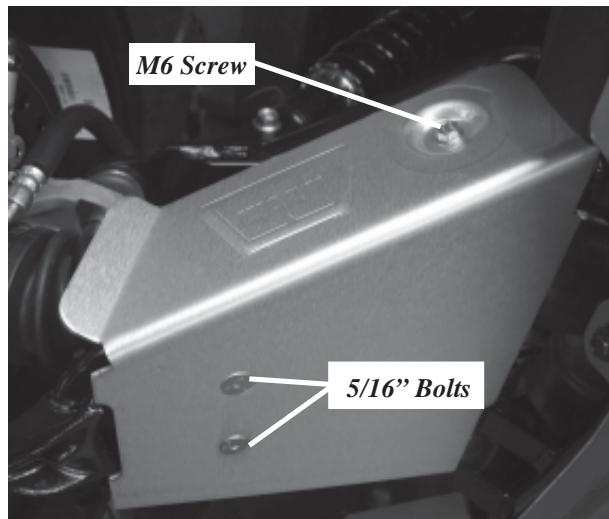

Figure 1
2. Fasten guard (A1) to front flange on A-Arm using M6 screw (B4). Do not tighten. (**Figure 1**)